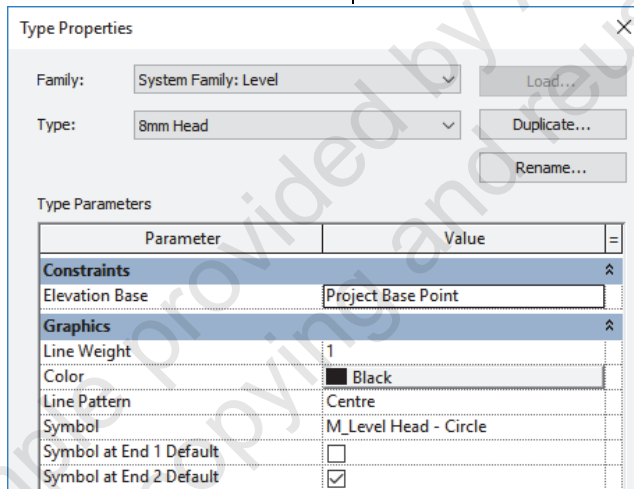
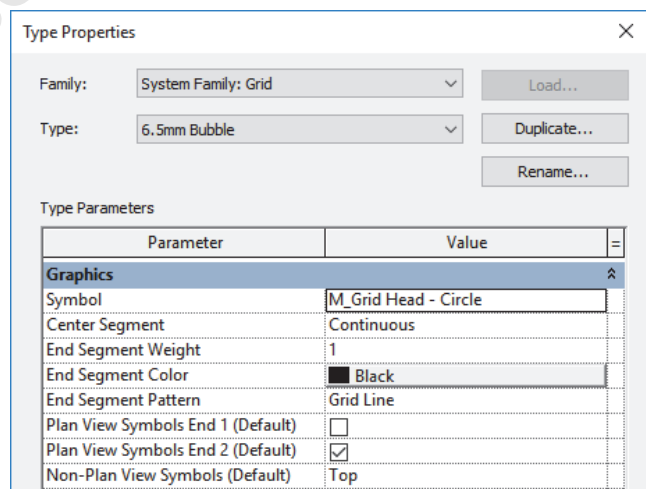

Figure 1-63
Figure 1-64
- Levels (shown in Figure 1-63) and grids (shown in Figure 1-64) are also system families that are set up in Type Properties and include component families such as the *Symbol M_Level Head-Circle* and *M_Grid Head-Circle*.